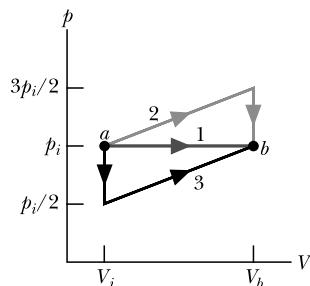

Figure 18.34 Problem 81.
- 81 SSM** A sample of gas undergoes a transition from an initial state  $a$  to a final state  $b$  by three different paths (processes), as shown in the  $p$ – $V$  diagram in Fig. 18.34, where  $V_b = 5.00V_i$ . The energy transferred to the gas as heat in process 1 is  $10p_iV_i$ . In terms of  $p_iV_i$ , what are (a) the energy transferred to the gas as heat in process 2 and (b) the change in internal energy that the gas undergoes in process 3?